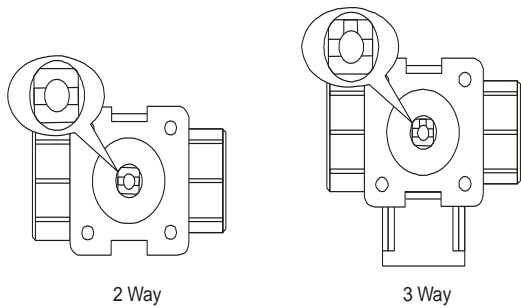

Figure 18: Positioning the Valve Stem
1. Turn the valve stem to the position outlined in Figure 18.